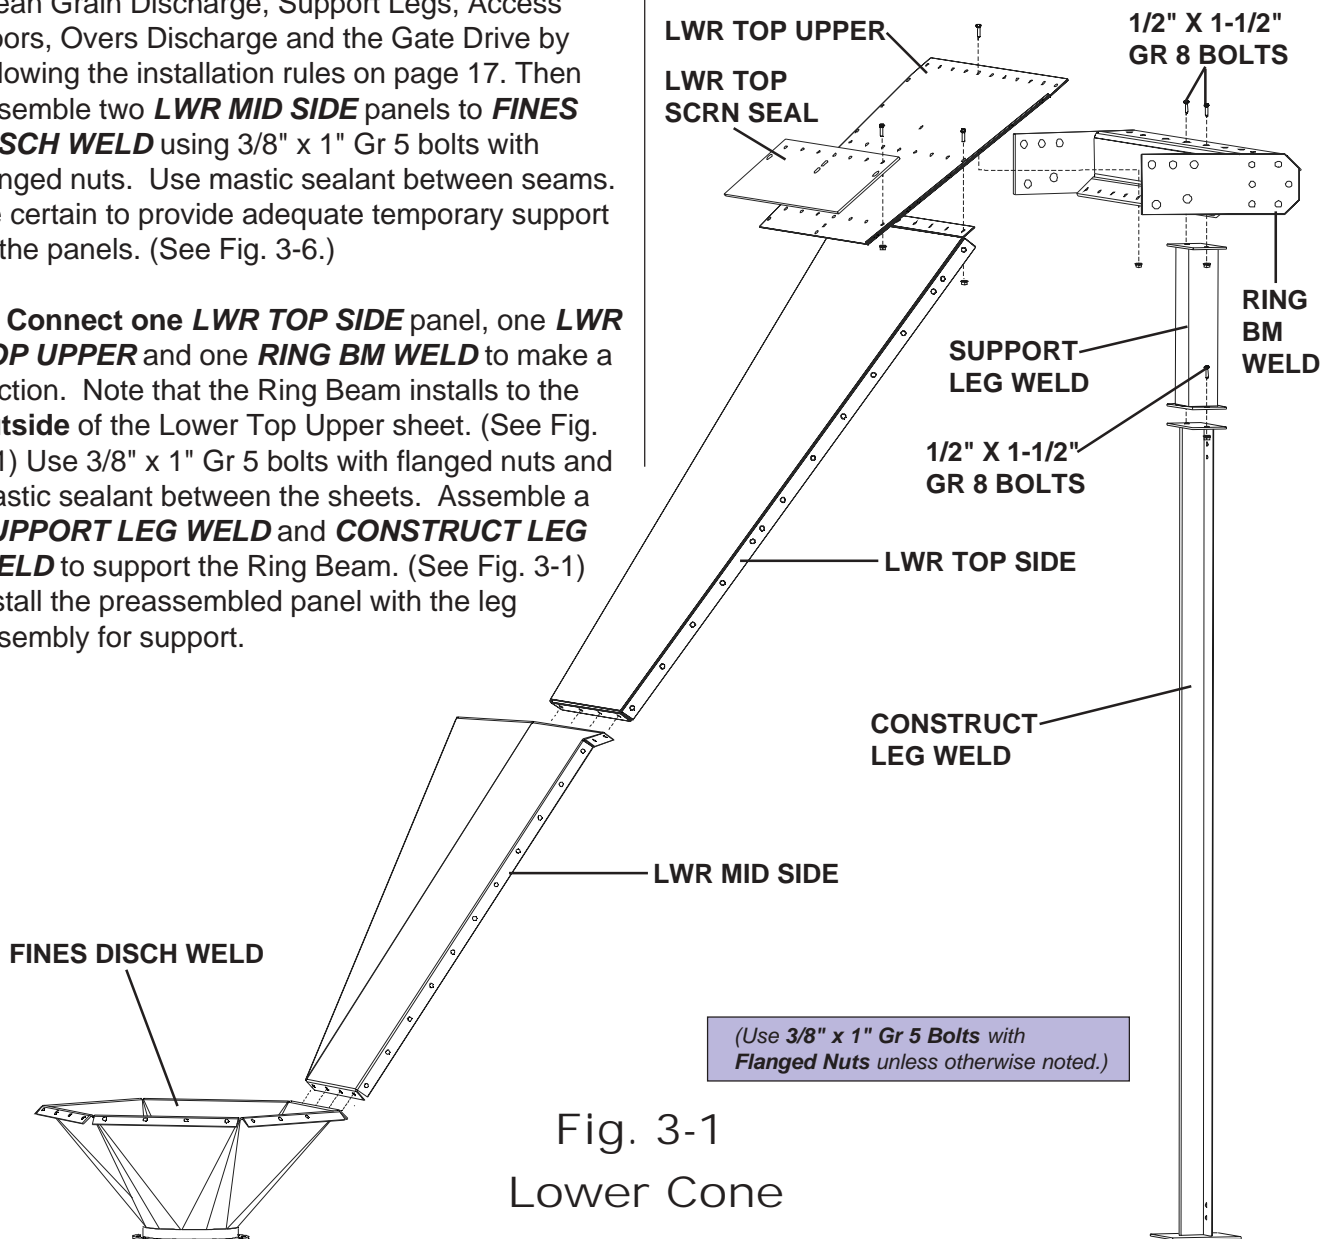

Fig. 3-1
(See Fig. 3-1 & 3-5)
3. **Connect one LWR TOP SIDE** panel, one **LWR TOP UPPER** and one **RING BM WELD** to make a section. Note that the Ring Beam installs to the **outside** of the Lower Top Upper sheet. (See Fig. 3-1) Use 3/8" x 1" Gr 5 bolts with flanged nuts and mastic sealant between the sheets. Assemble a **SUPPORT LEG WELD** and **CONSTRUCT LEG WELD** to support the Ring Beam. (See Fig. 3-1) Install the preassembled panel with the leg assembly for support.